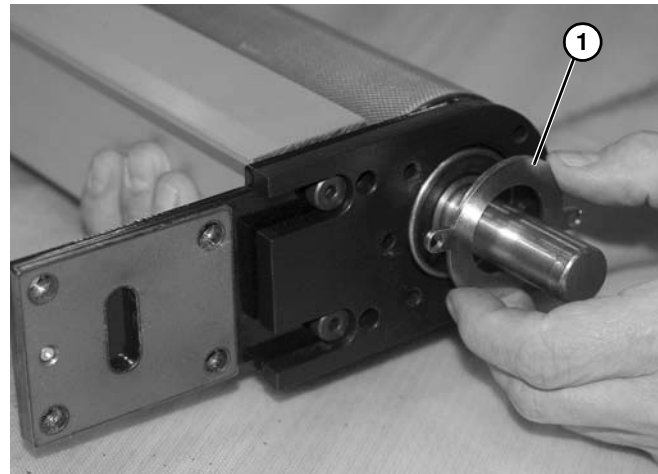

Figure 123
11. Remove bearing stop plate (Figure 123, item 1).